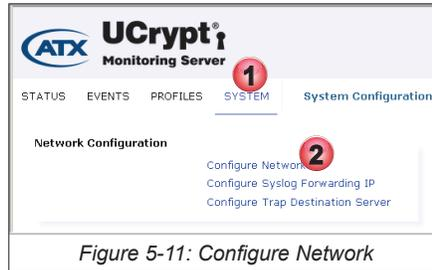

Figure 5-11: Configure Network
1. Click the **System** Tab, Figure 5-11.